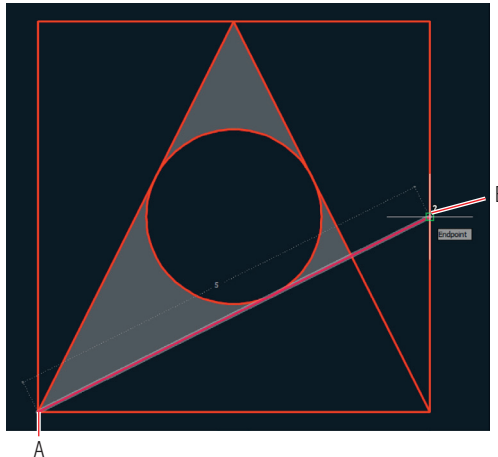

FIGURE 11.10 Measuring the distance between two points
2. Click the Distance tool in the Utilities panel of the Home tab on the ribbon. Click points A and B shown in Figure 11.10. The distance 5.000 is shown onscreen, and the command prompt reads as follows: